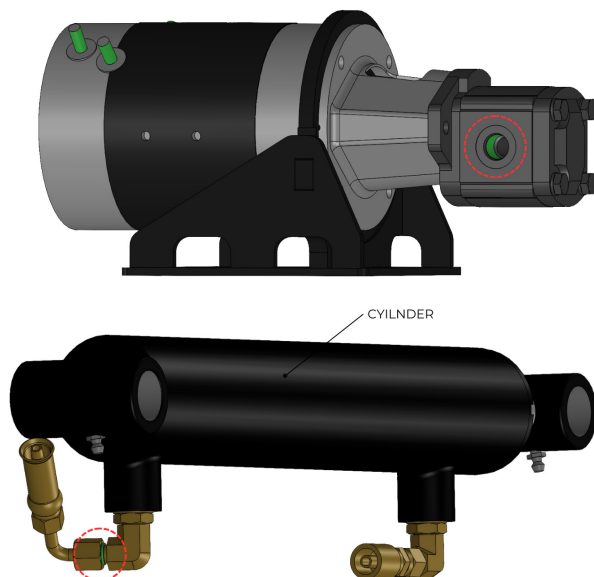

Figure 11. Connections.
**NOTE :** Colors are used to denote connections between elements, as depicted in the figure 11 above with the highlighted green color (encircled in red).